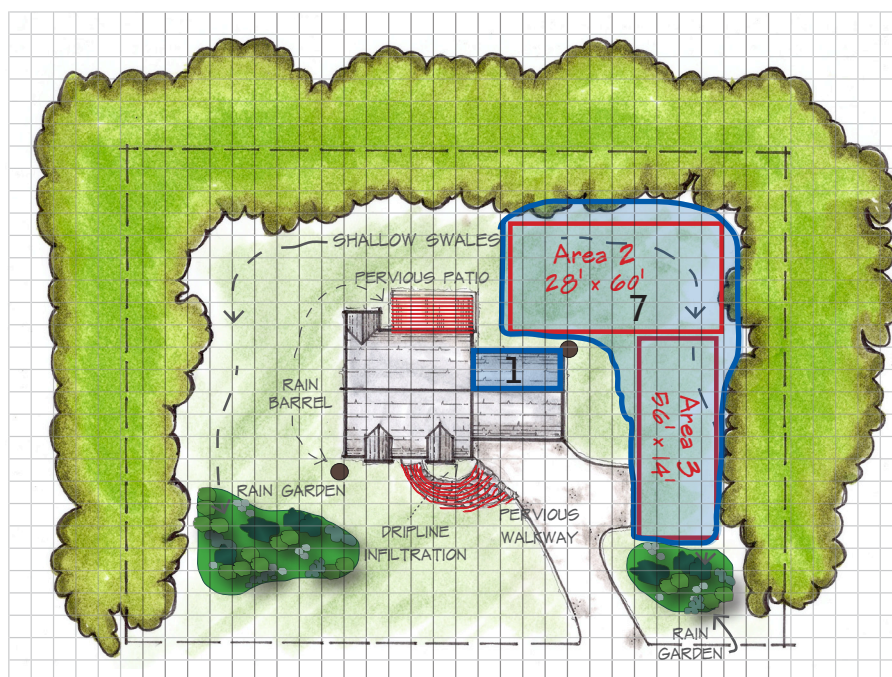

Figure 6. Draw the boundary lines (drainage areas) for stormwater endpoints.
2. Draw a boundary line on your project map around the area that drains to each stormwater endpoint. The boundary line represents the "drainage area" for each stormwater endpoint. Within that boundary line, all of the water that falls on the property drains to a common endpoint. For example, Figure 6 below shows that all of the stormwater from the back of this garage drains to a rain barrel. So a line was drawn around the perimeter of the back half of the garage roof. This rain barrel drainage area is labeled with a "1".
Also, most of the yard to the right of the house flows into a swale and then drains into a rain garden at the bottom right of the property. So a line was drawn around the perimeter of the yard area that drains to the rain garden. This rain garden drainage area is labeled with a "7" in Figure 6.